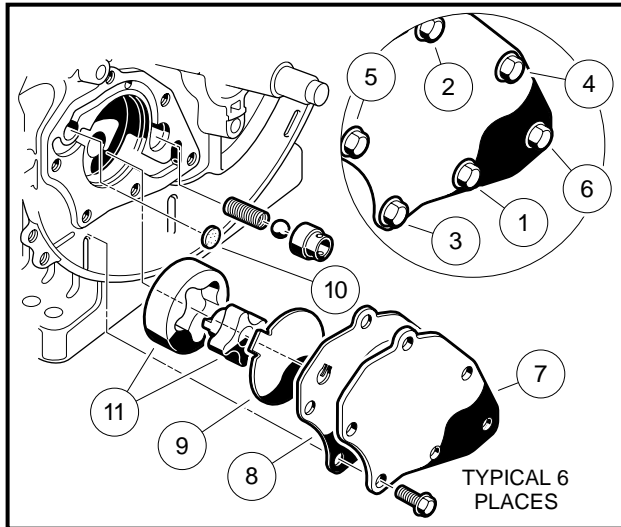

Figure 13-65 Oil Pump Removal
1. Remove the six screws (1 - 6) and remove the oil pump cover (7) (Figure 13-65, Page 13-33).
2. Peel off the oil pump cover gasket (8).
3. Remove the pump gear cover plate (9) and filter screen (10).
3. Remove inner and outer rotors (11) (**Figure 13-65, Page 13-33**).
3. Install six bolts (1 - 6) and finger tighten. Then tighten to 7 ft-lb (9.5 N-m) in the sequence shown (**Figure 13-65, Page 13-33**). After tightening bolts, check the torque of the first bolt.